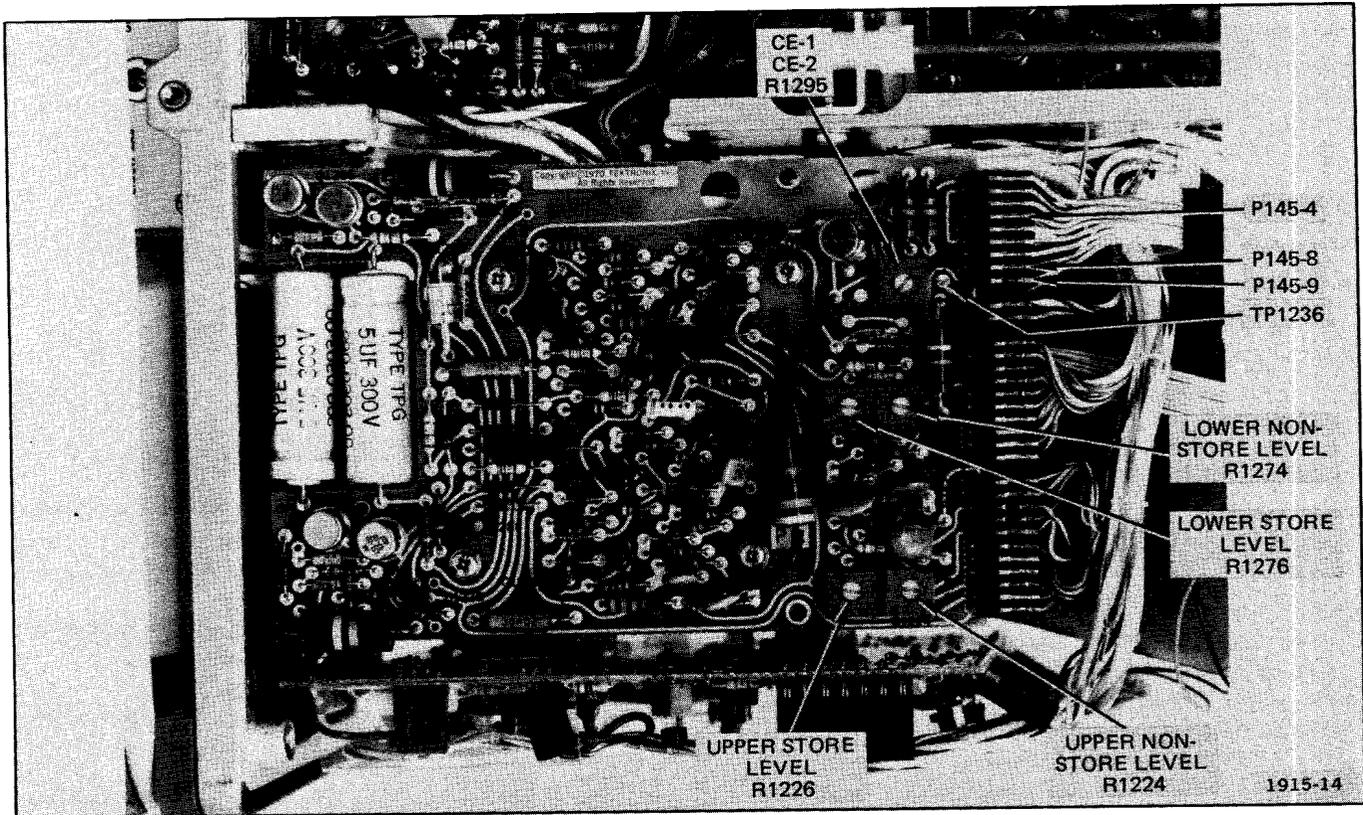

Fig. 5-3. Location of storage circuit adjustments and test points.
b. Connect the minus lead of a DC voltmeter to test point TP1236 and the plus lead of the meter to P145-4. See Fig. 5-3 for test point locations.
c. Adjust R1295 (see Fig. 5-3) for a meter reading of 100 volts.
h. Set the UPPER SCREEN STORE button to non-store (button out) position and move the plus lead of the meter to P145-9 (see Fig. 5-3).
- d. Connect the plus lead of the DC voltmeter to P145-8 (see Fig. 5-3).